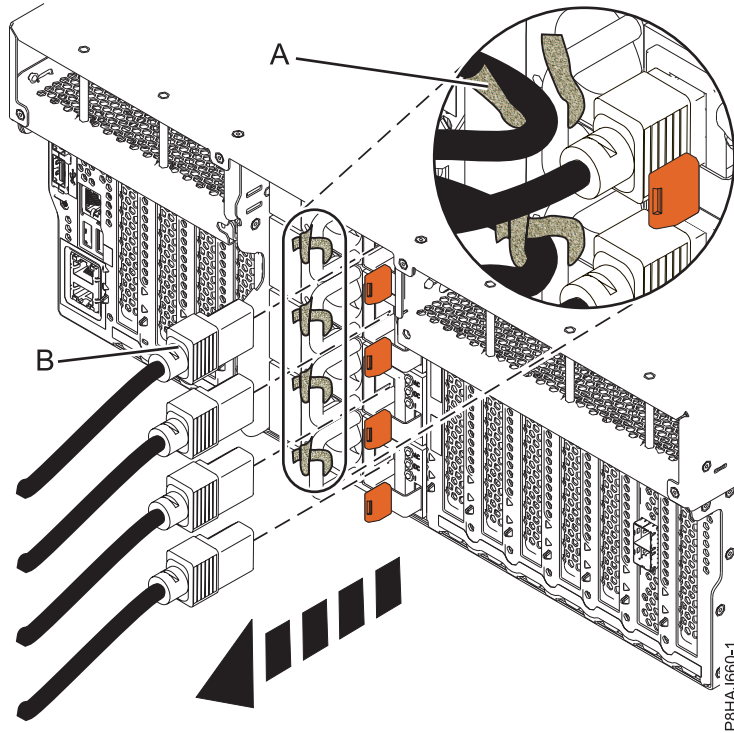
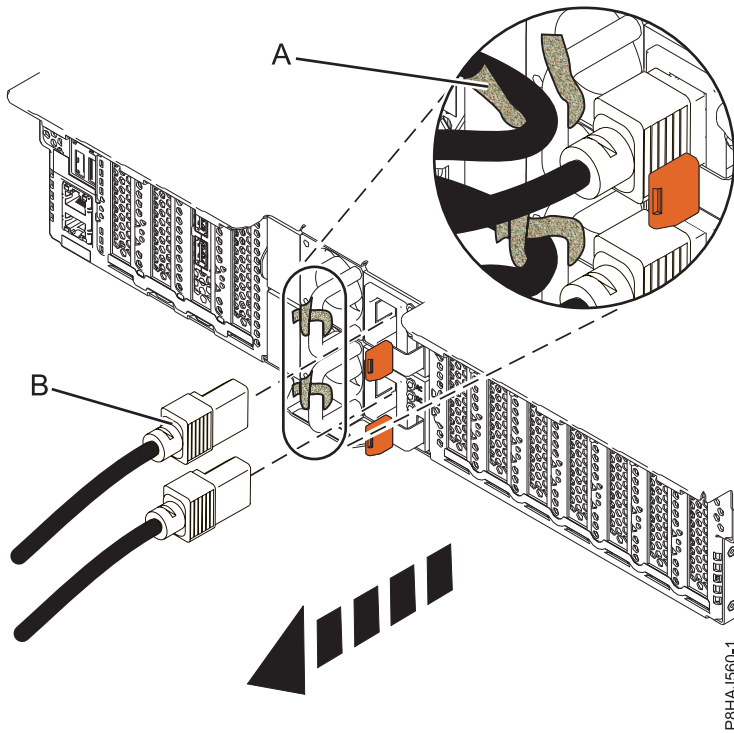
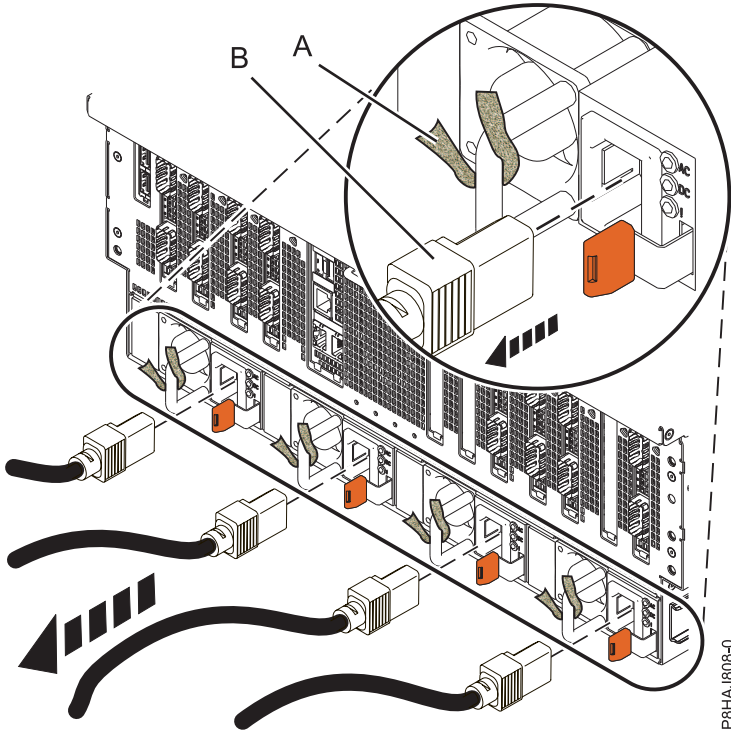

Figure 37. Removing the power cords from an 8247-42L, 8286-41A, or 8286-42A system
Figure 38. Removing the power cords from an 5148-21L, 5148-22L, 8247-21L, 8247-22L, 8284-21A, or 8284-22A system
Figure 39. Removing the power cords from an 8408-44E or 8408-E8E system
3. Disconnect the power cords (**B**) from the system unit. See Figure 37 on page 53, Figure 38 on page 53, or Figure 39 on page 54 or depending on the type of your system.